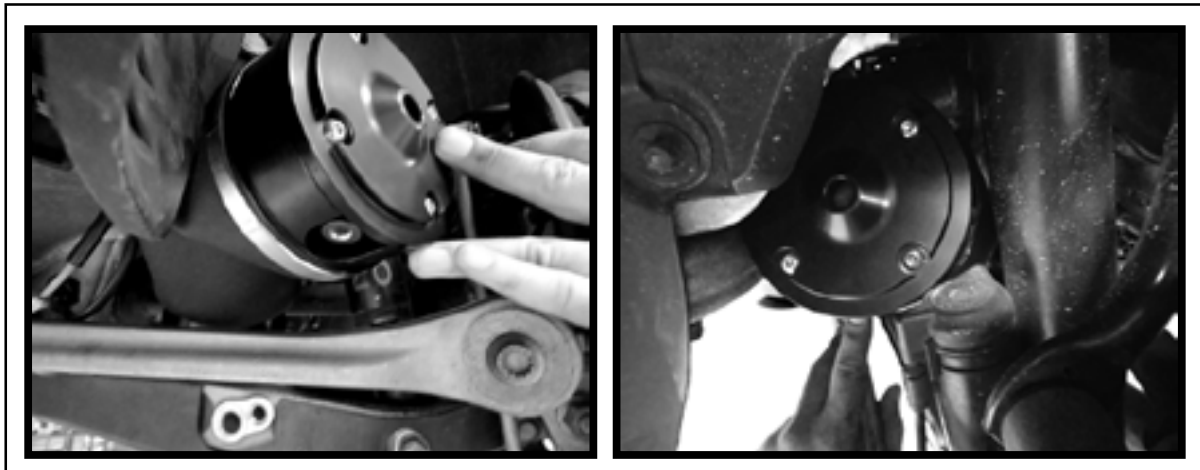

FIGURE 10-35
19.0 COMPRESS AIR SPRING TO INSTALL. (FIGURE 10-35)